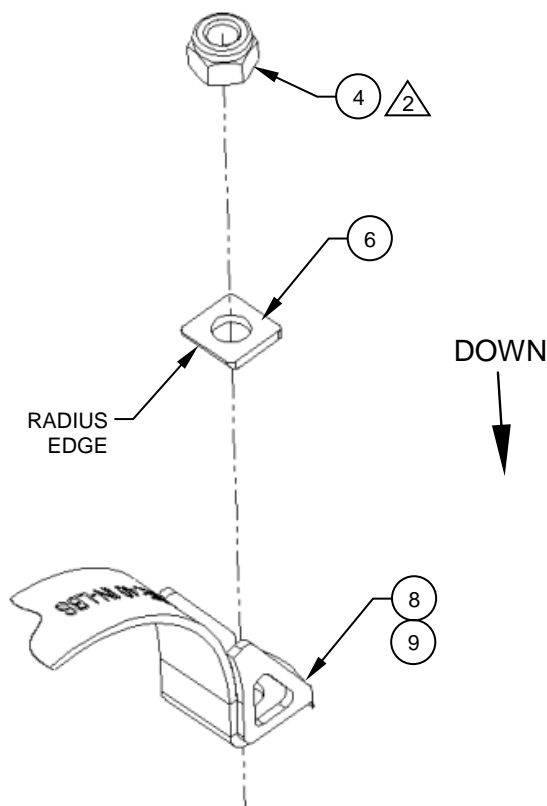

Figure 3
NOTE: Ensure the radius edge on the Washer (Item 6) is oriented down and towards the skid tube. Reference Figure 3.
4. Lower the aircraft onto the Traction Paw, Details (Item 1) and torque the fasteners equally to 40 in/lbs. (plus tare torque). Reference Figure 3.